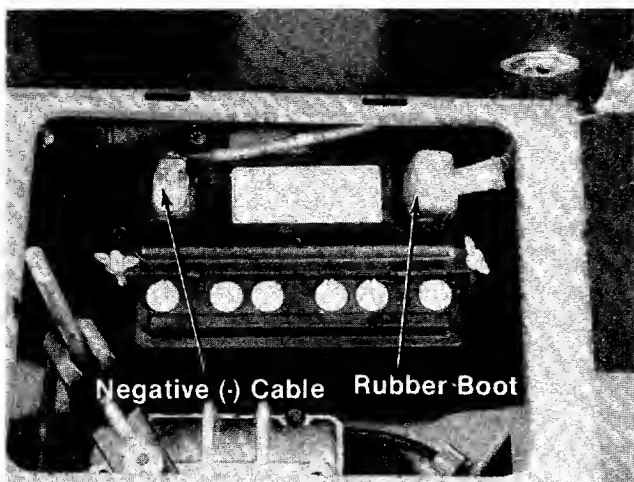

FIGURE 11.
8. Fasten the positive cable (cable with rubber boot) to the positive terminal. Secure with hex screw (H), lock washer (I) and hex nut (J). See figure 11.
9. Fasten the negative cable to the negative terminal. Secure with hex screw (H), lock washer (I) and hex nut (J). See figure 11.